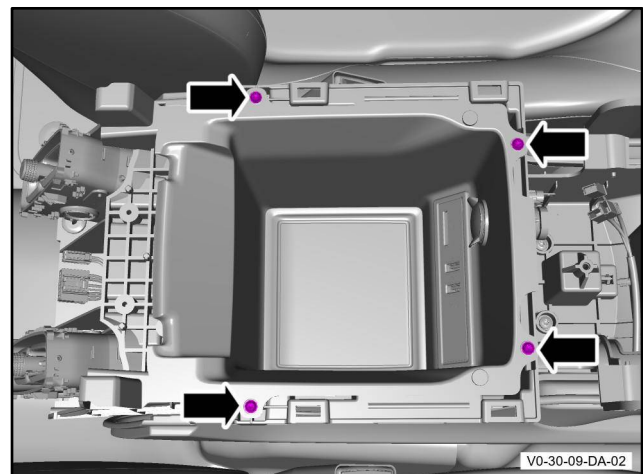

Figure 13
7. Remove the four bolts that attach the stowage tray to the centre console assembly (refer to Figure 13).